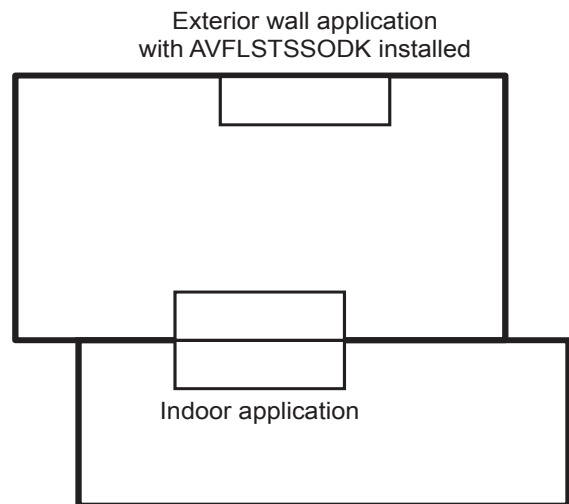
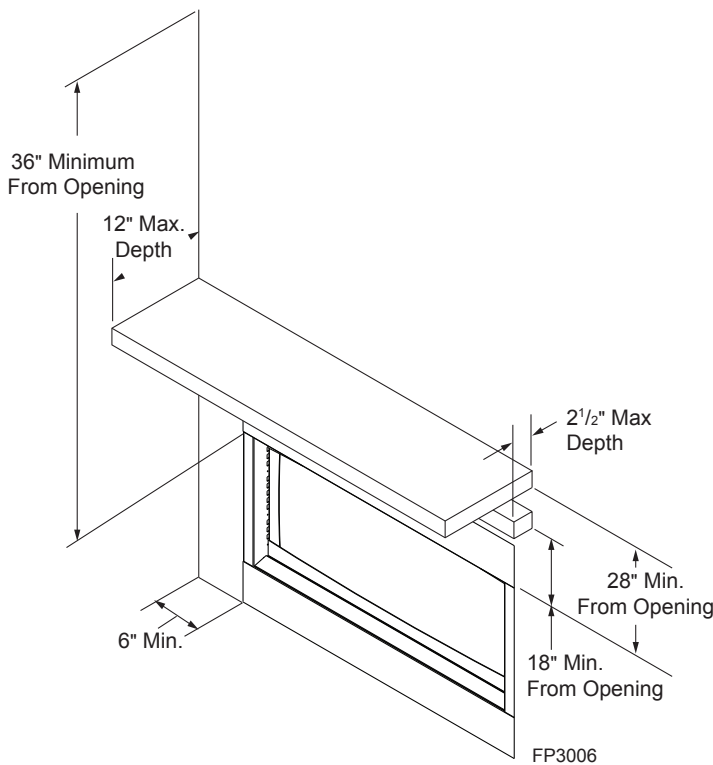

Figure 5. Possible Fireplace Locations
Figure 6. Sidewall and Ceiling Clearances
1. Position fireplace in desired location. Refer to the Fireplace and Framing Dimensions (page 6, Figures 2 and 3,) Fireplace Location (page 9, Figure 5) and Clearances and Height Requirements (page 9, Figures 6 and 7.)
- Minimize modifications to existing construction. Refer to Figure 5 below for location suggestions.
Ensure that minimum clearances shown in Figures 6 and 7 are maintained. Left and right clearances are determined when facing the front of the firebox.
**Sidewall Clearances** — The clearance from the inside of the appliance to any combustible adjacent wall should not be less than 6". Figure 6
**Ceiling Clearance** — The ceiling or any other combustible material must be at least 36" from the firebox opening. Figure 6
The dimensions shown in Figures 5 and 6 are minimum clearances to maintain when installing this heater. Left and right clearances are determined when facing the front of the heater.
**Mantel clearances** — Must meet the clearance requirements detailed in Figures 6 and 7.